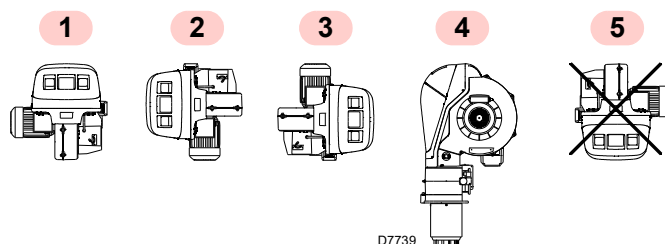

Fig. 13
- The burner is designed to operate only in positions 1, 2, 3 and 4 (Fig. 13).